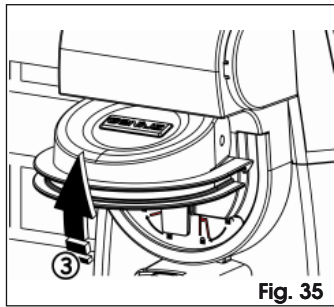

Fig. 35
2. Open the release cover, Fig. 35.